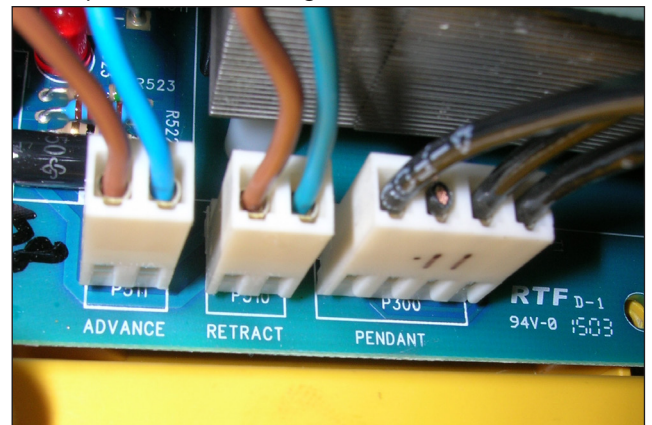

Figure 5, Connections - Advance, Retract and Pendant
3. Locate the three electrical connections “ADVANCE”, “RETRACT” and “PENDANT” on the upper left-hand corner of the power board. See Figure 5.